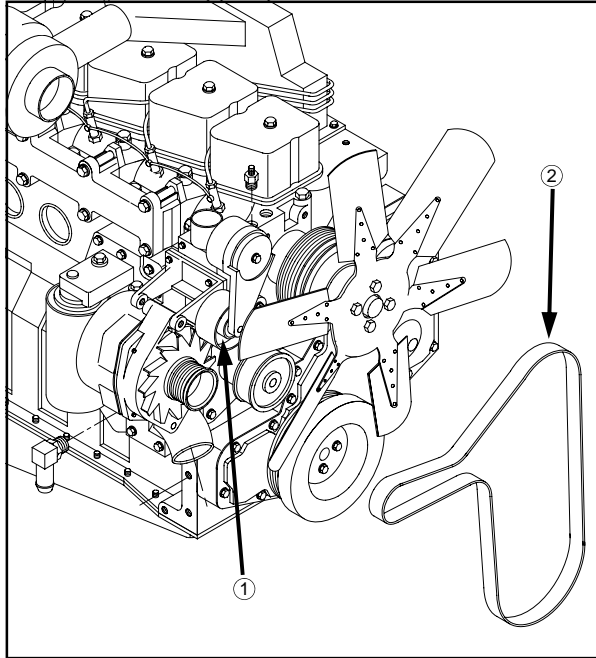

FIG 7.49
REMOVAL - Insert a 3/8 inch square ratchet drive into the belt tensioner (fig. 7.49, item 1) and lift upward to remove the belt (fig. 7.49, item 2).